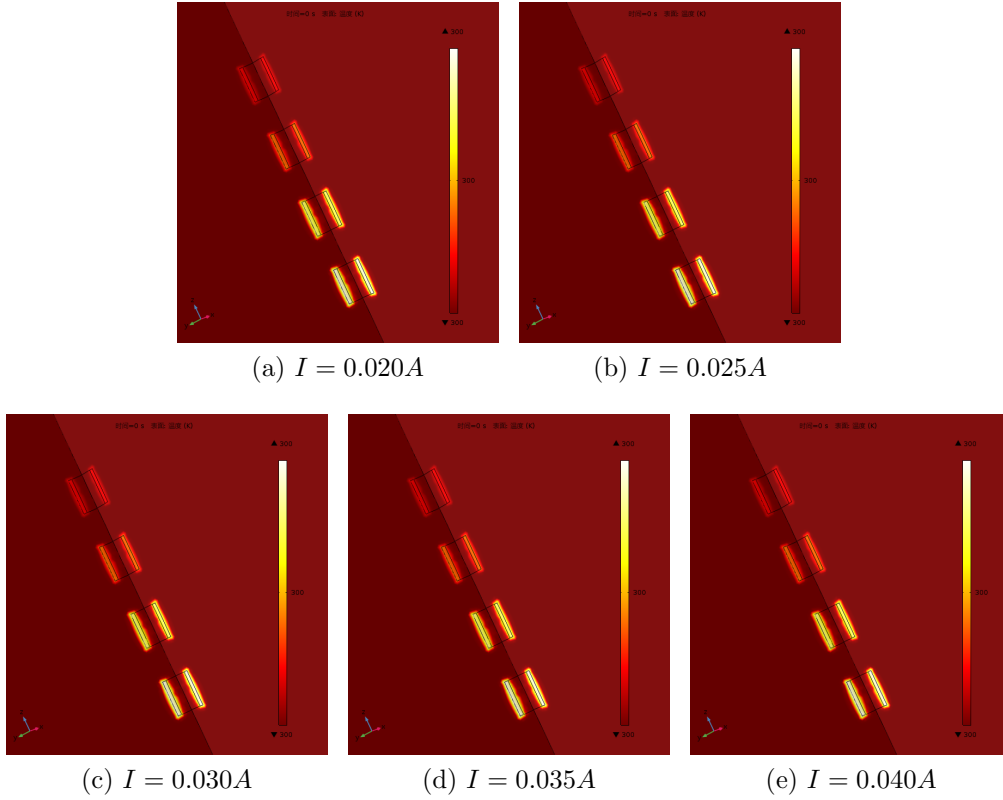

Figure S2: Temperature field distribution of the complex resistor model.
2. Fig. S2: Temperature field distribution of the complex resistor model.